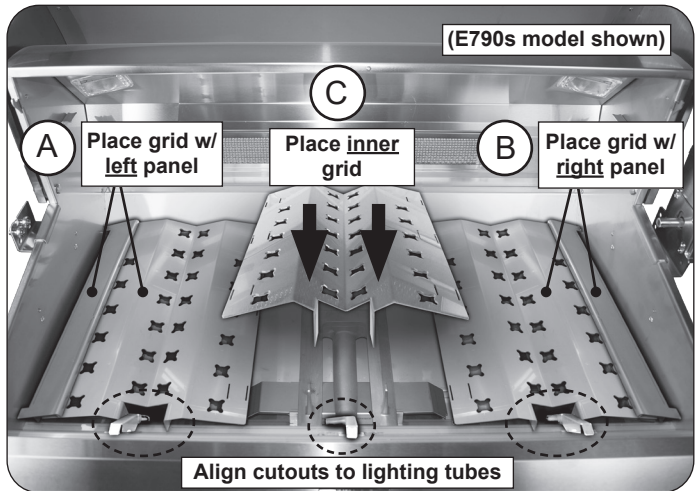

Fig. 24-1 Install flavor grids
1. Locate the flavor grid with the pre-attached **left panel** (see Fig. 24-1, A).
2. Carefully rest the grid onto the rear and front flavor grid rests while ensuring the flavor grid cutout clears the left-most lighting tube. See Fig. 24-1, A.
3. Locate the flavor grid with the pre-attached **right panel** and place it on the right side of the grill (see Fig. 24-1, B).
4. Take the inner grid and install it between the left and right flavor grids (see Fig. 24-1, C).